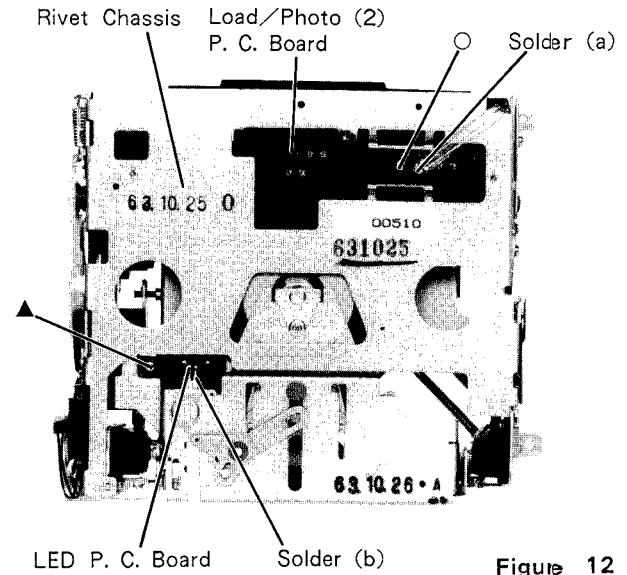

Figure 12
- (1) Remove the solder (b) as shown in Figure 12.
- (2) Remove the screw marked with "▲" as shown in Figure 12.